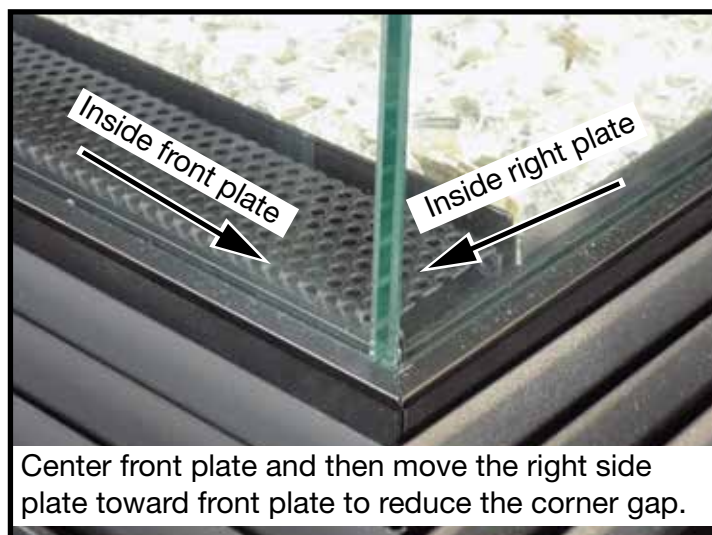

Figure 45: Final position of inside glass plates.
7. Using a suction handle, gently shift the inside right hand glass plate forward in its slot until it just touches the inside front glass plate (Figure 45).